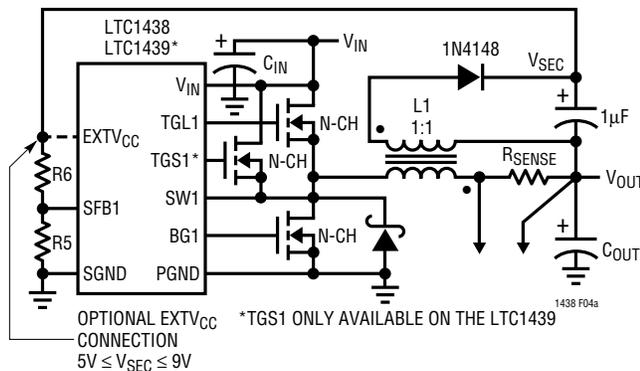
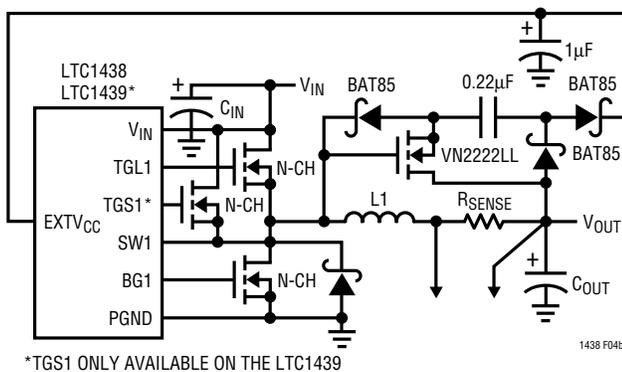

Figure 4a. Secondary Output Loop and  $EXTV_{CC}$  Connection
Figure 4b. Capacitive Charge Pump for  $EXTV_{CC}$
3.  $EXTV_{CC}$  connected to an output-derived boost network. For 3.3V and other low voltage regulators, efficiency gains can still be realized by connecting  $EXTV_{CC}$  to an output-derived voltage which has been boosted to greater than 4.8V. This can be done with either the inductive boost winding as shown in Figure 4a or the capacitive charge pump shown in Figure 4b. The charge pump has the advantage of simple magnetics.
The secondary output voltage is set by the turns ratio of the transformer in conjunction with a pair of external resistors returned to the SFB1 pin as shown in Figure 4a. The secondary regulated voltage  $V_{SEC}$  in Figure 4a is given by: